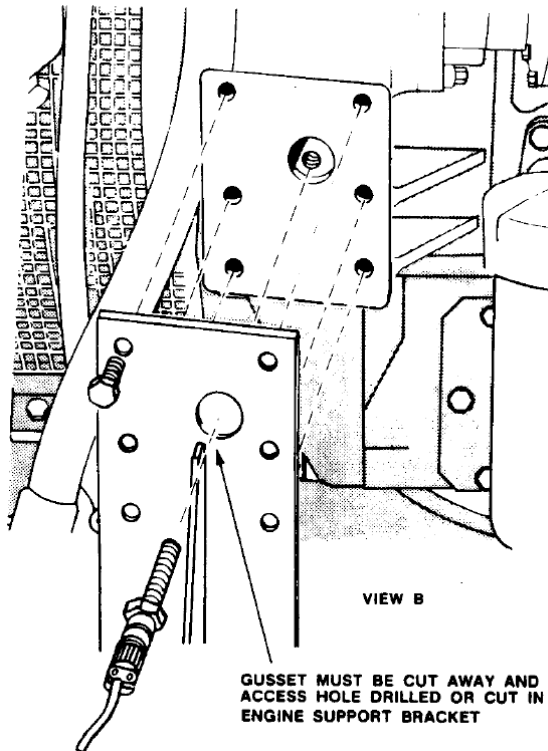

Figure 3. Magnetic Pickup Installation
1. Install the magnetic pickup in the flat surface used for the engine support bracket on the right side of engine. Drill an access hole in the engine support bracket and flywheel housing for the magnetic pickup. See Figure 3, Views A and B for location and dimensions of magnetic pickup hole.
Figure 1, Views A and B shows the linkage arrangement and reference numbers. Figure 1, View C, shows the new control rod plate. Figure 2 shows the control rod plate in relation to the EG-3P actuator. Figure 3 shows the location of the magnetic pickup and dimensions for drill and tap. Figure 4 shows the connector assembly. Figure 5 shows the magnetic pickup assembly.